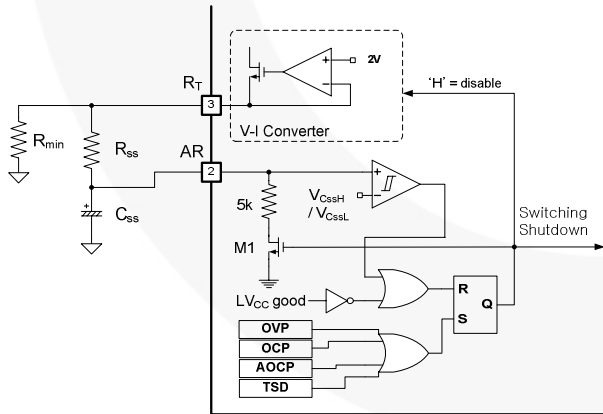
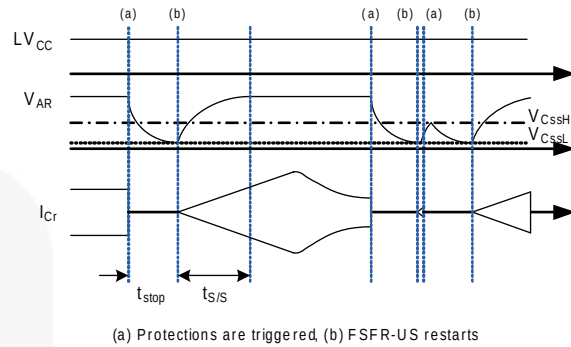

Figure 20. Internal Block of AR Pin
Figure 21. Self Auto-Restart Operation
4. Self Auto-Restart: The FSFR-US series can restart automatically even though any built-in protections are triggered with external supply voltage. As can be seen in Figure 20 and Figure 21, once any protections are triggered, M1 switch turns on and V-I converter is disabled. C_{SS} starts to be discharged until $V_{C_{SS}}$ across C_{SS} drops to $V_{C_{SS}L}$. Then, all protections are reset, M1 turns off, and V-I converter resumes at the same time. The FSFR-US starts switching again with soft-start. If the protections occur while $V_{C_{SS}}$ is under $V_{C_{SS}L}$ and $V_{C_{SS}H}$ level, the switching is terminated immediately, $V_{C_{SS}}$ continues to increase until reaching $V_{C_{SS}H}$, then C_{SS} is discharged by M1.